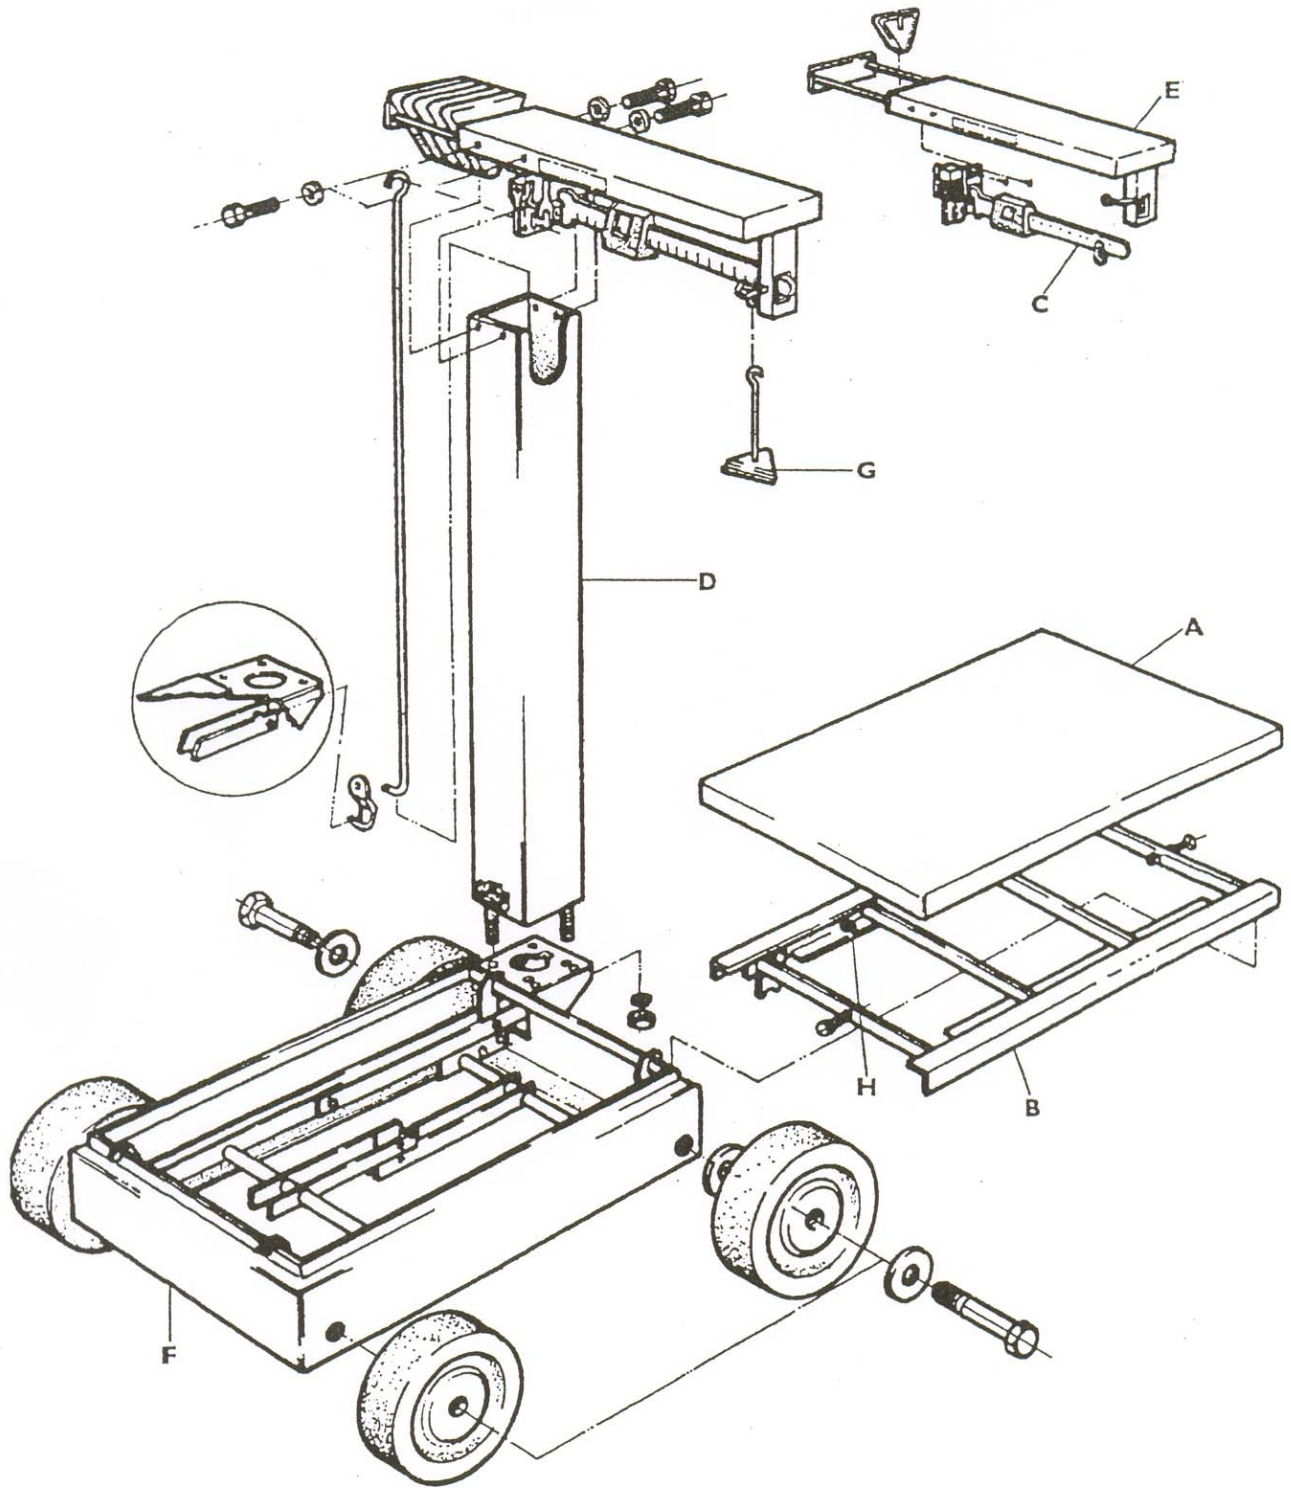

Figure 2
(NOTE: Refer to the exploded view diagram, Figure 2, for assembly assistance).
3. For reinstallation purpose, note the location of the level bubble (item H, figure2) on the spider assembly. Also note the position of the two bolts in the center front and center back of the spider assembly. Lift out the spider assembly and place it off to the side
9. Place the hook onto the bottom end of the steelyard rod (refer to the exploded view diagram, Figure 2, for proper positioning). Lift the assembled beam, turn it over, and attach the top of the steelyard rod through the stirrup on the beam assembly.